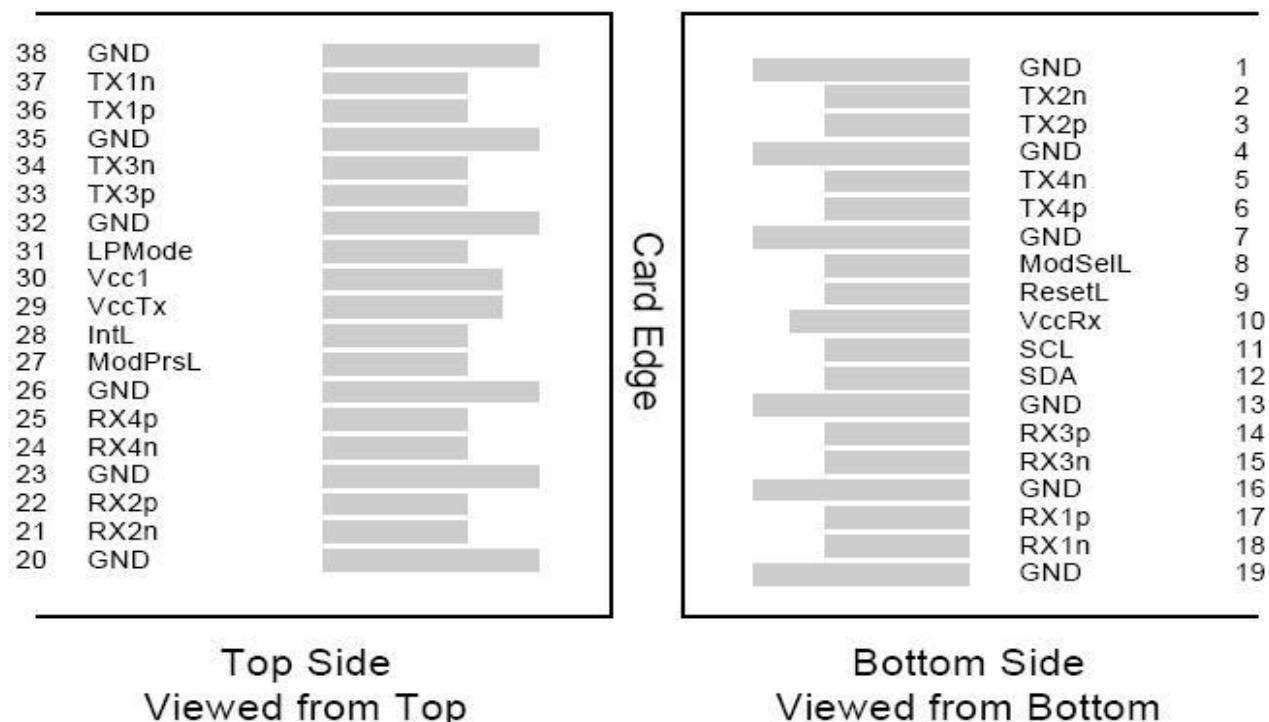

Figure 3. QSFP28 Transceiver Electrical Connector Layout
2. VccRx, Vcc1 and VccTx are the receiver and transmitter power suppliers and shall be applied concurrently. Recommended host board power supply filtering is shown in Figure 3 below. Vcc Rx, Vcc1 and VccTx may be internally connected within the QSFP28 transceiver module in any combination. The connector pins are each rated for a maximum current of 1000mA.